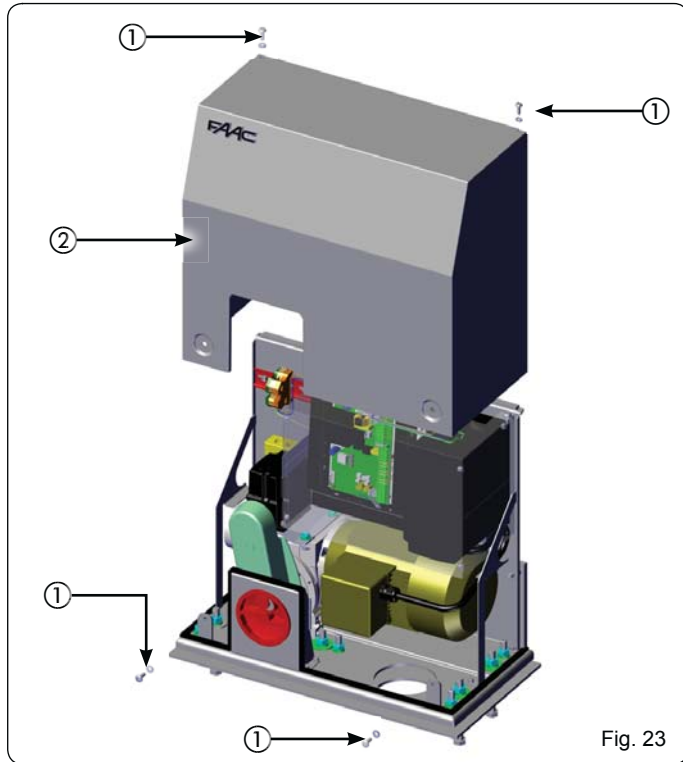

Fig. 23
Once operator installation has been completed, carefully check operation of all the connected accessories and safety devices. Refit the transparent guard covering the control unit. Fit the housing (Fig. 23 ref. ②) and secure it using the four provided screws (Fig. 23 ref. ①). Give the customer the "User's Manual" and show how to correctly operate and use the gearmotor, pointing out the areas of potential danger of the automated system.